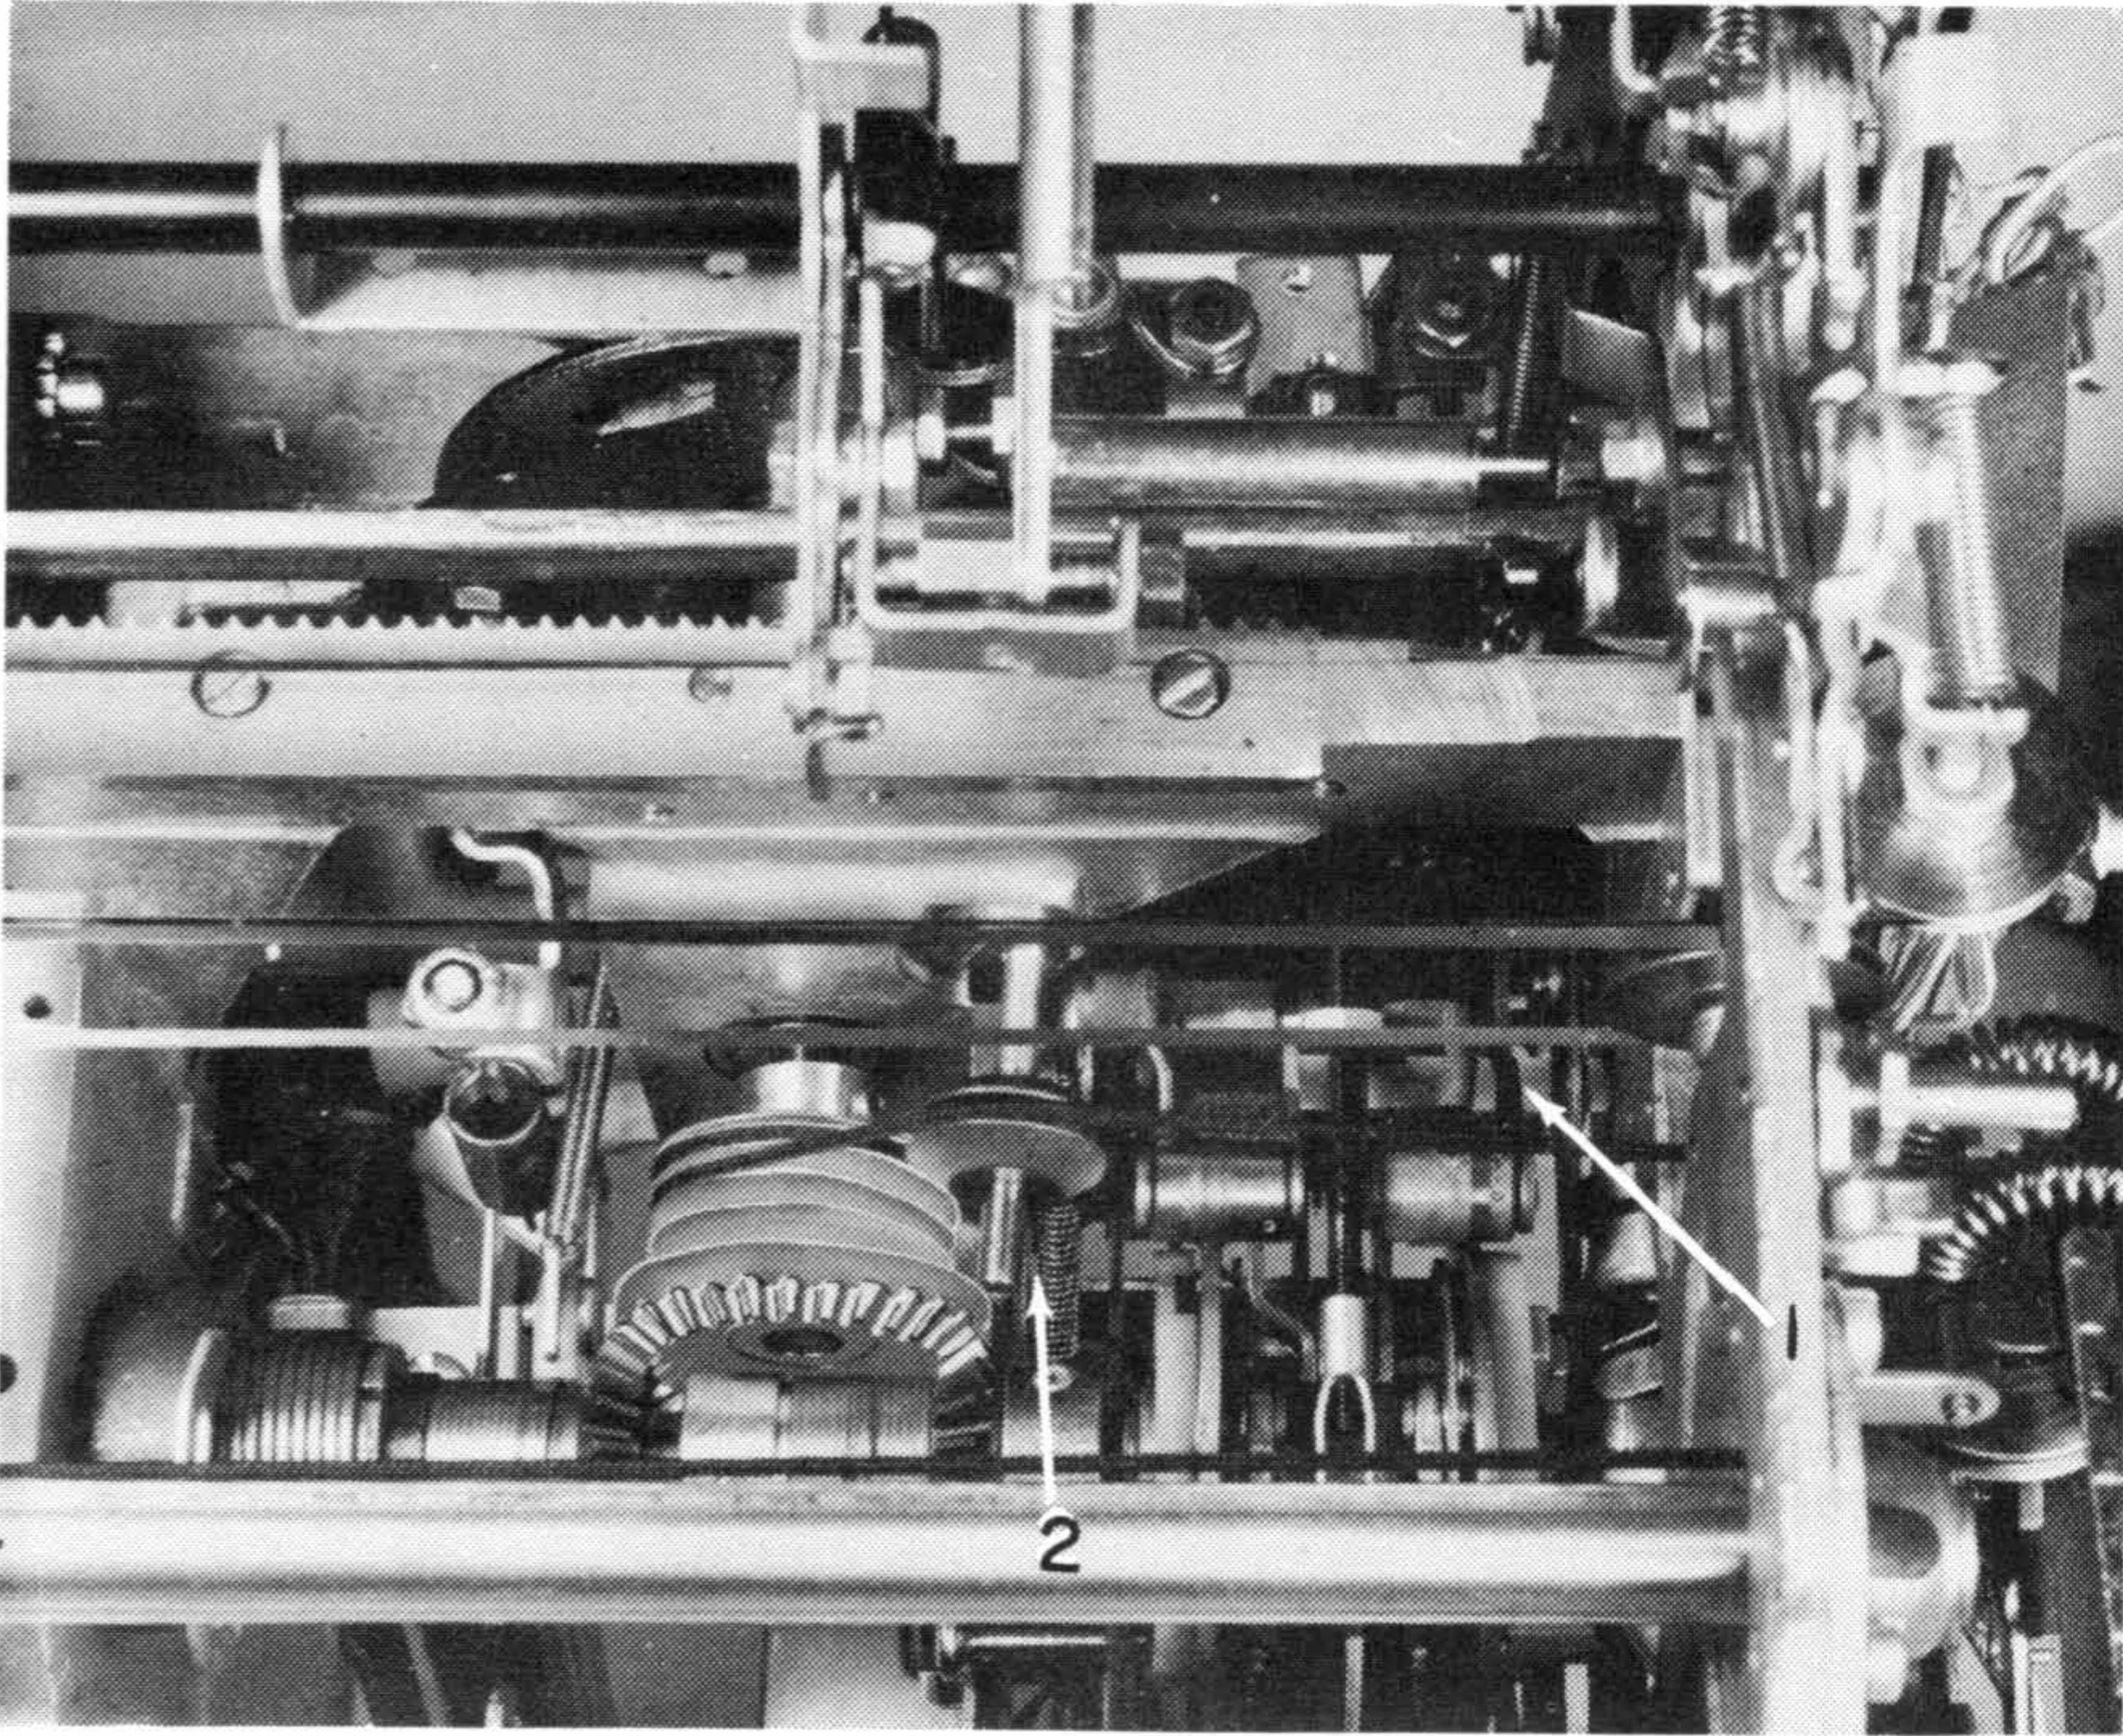

Figure 43. Operational Cam Follower Removal
1. Remove the C-clips from the cam-follower pivot shaft (#1, Figure 43).
2. Remove the auxiliary cam-follower spring (#2, Figure 43).